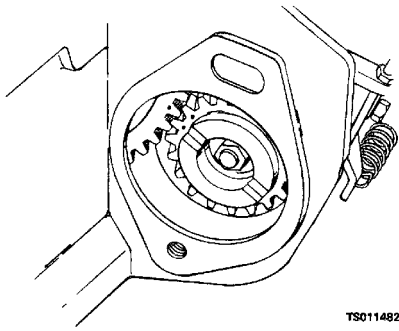

Figure 3-3. Timing marks on governor drive gear and cam gear.
(1) The magneto must be removed to enable proper timing of the governor drive gear with the timing gear.
(2) Sight through the magneto mounting hole to check that the two marked teeth of the governor drive gear engage the single marked tooth of the cam gear as shown in figure 3-3. Ignition timing is dependent upon this relationship because the magneto is driven by the governor drive gear.